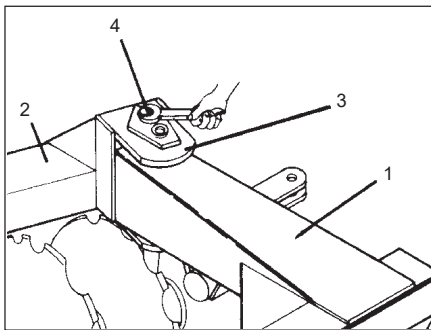

FIGURE 06
10 - Attaching the front frame section item 1 in the rear frame section item 2, through the axis of join item 3, locking it with the bolt lock item 4, as shown in **Figure 06**.